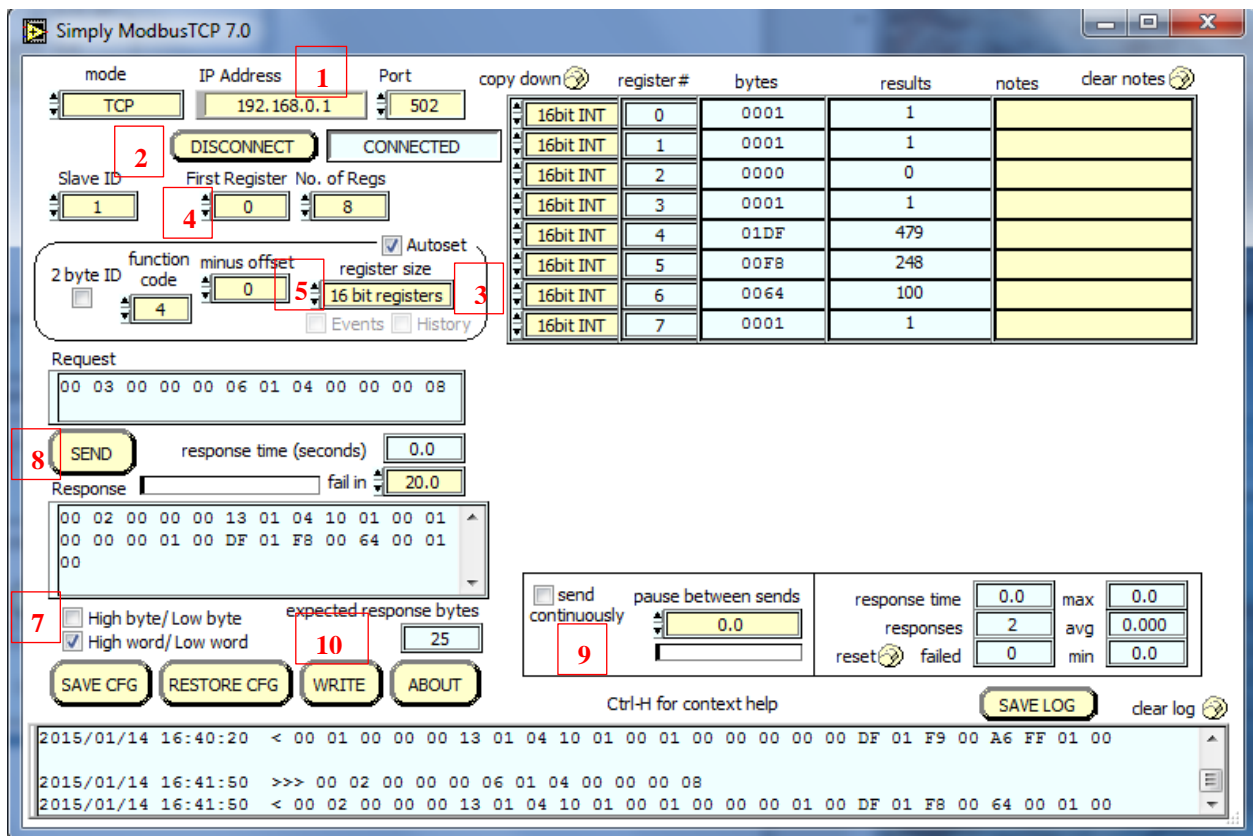

Figure 9.11: Simply Modbus Screen
- In the example, the Modbus TCP master is “Simply Modbus”, see Figure 9.11.
- Reference **Figure 9.11** and click the write command in the Simply Modbus main window (see **Figure 9.11** position 10).